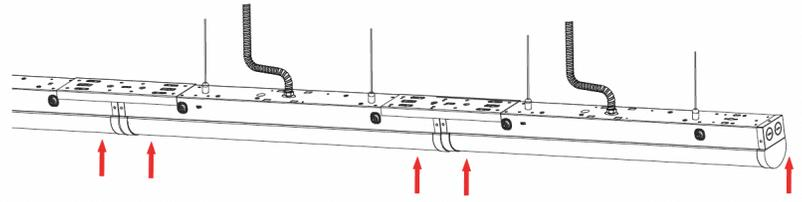

Fig. 30
14. Secure the housing cover by pressing inward and lock it into the fixture. Turn power on to verify operation (Fig. 30).